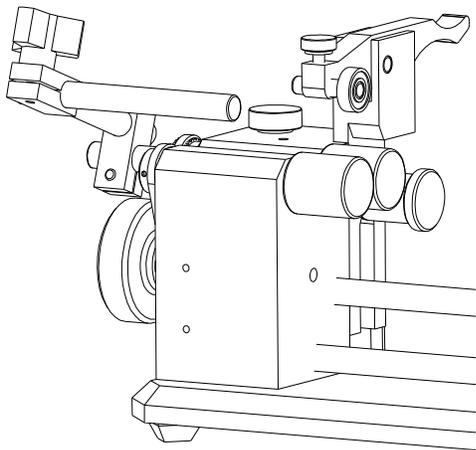

Figure 12. Back Stop Assembly (Front view)
8.0 Back Stop Set-up – (See Figures 12 and 13)